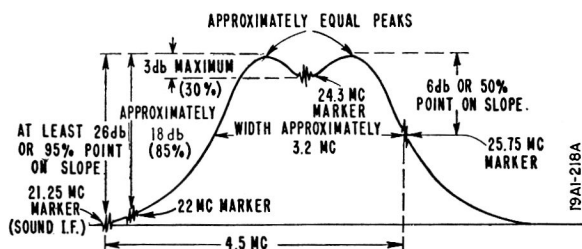

Figure 28. Overall IF Amplifier Response Curve.
- Alignment adjustments, connection points, and response curves are shown in figs. 28, 29, 30.
3	a. Disconnect Signal Generator and VTVM. b. Connect Oscilloscope between point "X" in chassis and chassis ground. Keep leads away from receiver. c. Connect Sweep Generator high side to point "W" on tuner, low side to chassis ground. Set Sweep Generator to sweep the IF pass band (20 to 30 MC). d. Loosely couple Marker Generator high side to the Sweep Generator lead connected to point "W" on tuner, low side to chassis ground. e. Check curve obtained against the ideal overall IF amplifier response curve shown in figure 28. If necessary, retouch (stagger tune) A1, A2, A3, and/or A4 as required. IMPORTANT To avoid distortion of the response curve (overloading the video detector) keep the Sweep Generator and Marker Generator outputs at a very minimum. Marker pips should be just kept barely visible. Connecting a 3-volt bias battery (negative to point R, positive to chassis) will allow greater signal input without distorting response curve. It is important that marker pips be in the proper location on the response curve as shown in figure 28. Correct locations of 25.75 MC marker should be 6db below peak (50% point on slope of curve). The 22 MC marker should be at the opposite side of the response curve, located approximately 18db (85%) below the peak. The 21.25 MC marker should be located at least 26db (95%) below the peak. The ideal location of the 2.25 MC marker is approximately 32db (97%) below the peak and may or may not be visible. Consistent with proper band width and correct location of markers, the response curve must have maximum amplitude, symmetry, and a flat top appearance.
1	Before aligning the HF oscillator, check the IF response curve (figure 28) as indicated in step 3 of the IF Amplifier Alignment. The IF's must be accurately aligned before correct oscillator adjustment can be made. Retouch RF adjustments if necessary.